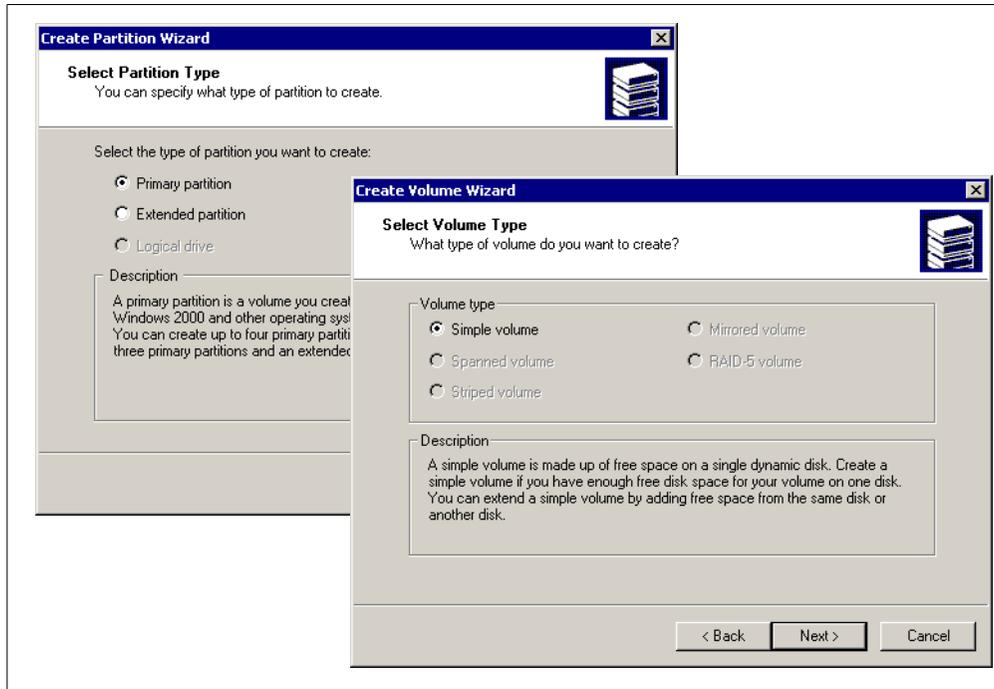

Figure 101. Select partition type (basic disks) or volume type (dynamic disks)
4. Select the partition or volume type (Figure 101). On basic disks, you can create up to four primary partitions, or three primary partitions and one extended partition and an unlimited number of logical drives within the extended partition. On dynamic disks, you can create a simple volume or a spanned, striped, mirrored, or RAID-5 volume if you have selected multiple disks. Click **Next** to continue.